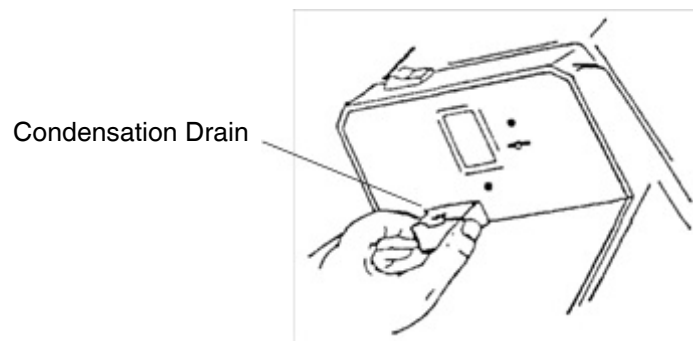

Figure 10.
1. To remove the condensation drains, push in on the front panel, just under the drain and pull down with fingers, as shown in Figure 10.